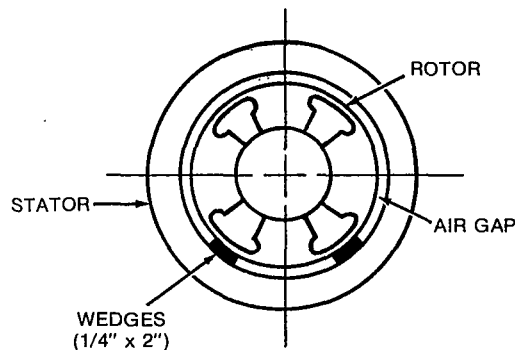
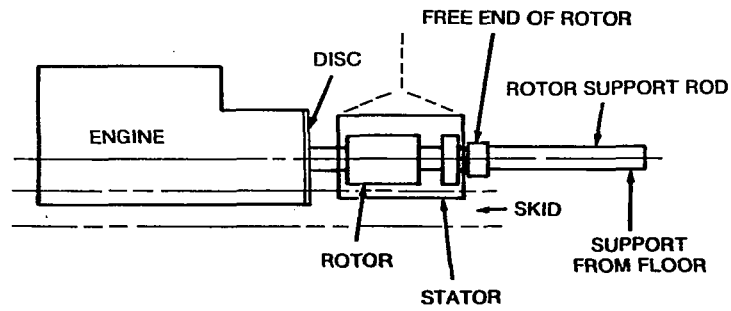

FIGURE 18. WEDGE INSTALLATION
FIGURE 19. STATOR REMOVAL
11. Install wedges between rotor and stator, Figure 18.
12. Remove six 3/8 inch bolts (12) and endbell (13).
13. Install rotor support rod to free end of rotor, Figure 19.
3. Install rotor support rod to free end of rotor, supporting the free end of the rotor support rod. See Figure 19.
6. Place wedges between the rotor and stator. See Figure 18. Then remove the rotor support rod from the rotor.